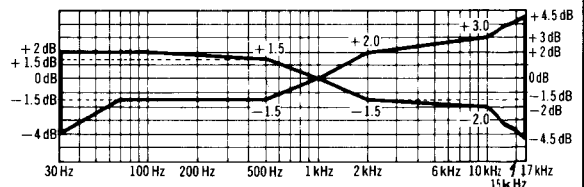

Fig. 15
8. Change test tape to CrO2 reference blank test tape (QZZCRX), and record 1kHz, 50Hz, 100Hz, 200Hz, 500Hz, 4kHz, 8kHz, 10kHz, 15kHz and 17kHz signals. Then, playback the signals and check if the curve is within the limits shown in the overall frequency response chart for CrO2 tapes (fig. 15).
10. Place UNIT into metal tape mode and change test tape to metal reference blank test tape (QZZCRZ), and record 1kHz, 50Hz, 100Hz, 200Hz, 500Hz, 4kHz, 8kHz, 10kHz, 12.5kHz, 15kHz and 17kHz signals. Then, playback the signals and check if the curve is within the limits shown in the overall frequency response chart for metal tapes (fig. 15).